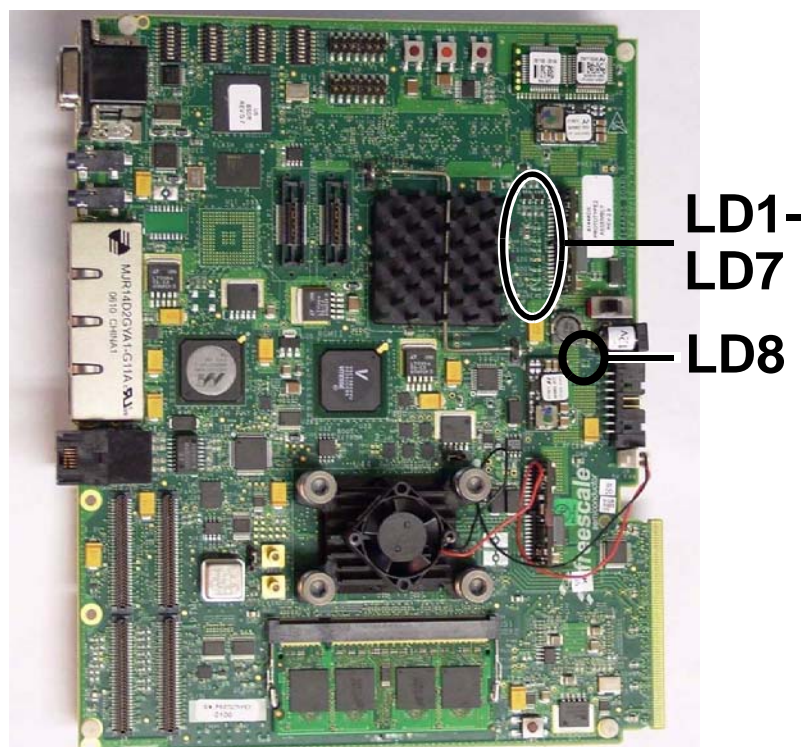

Figure 2-1. LED Locations
6. Check for completion of the reset sequence-indicated by all relevant LEDs reaching a steady state, according to their respective meanings. (see **Figure 2-1** for location of these LEDs, see **Table 4-6** for a more detailed description).